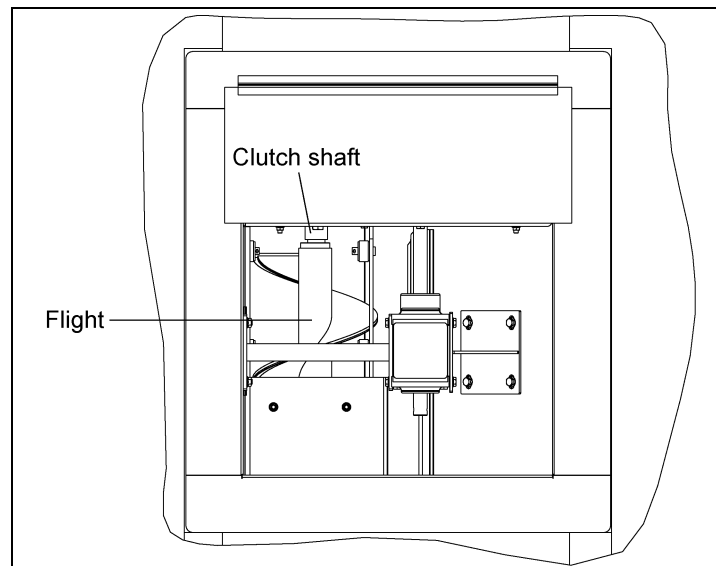

Figure 4X
3. When the flight is approaching the clutch shaft, it will be necessary to rotate the flighting counterclockwise in order to get it to seat properly on the squared clutch shaft. When the flight is properly seated, the flight should be entirely inside the unload tube. It may be necessary to pull the flight out, a small amount and attempt this step multiple times in order to seat the flight properly. (See Figure 4X.)